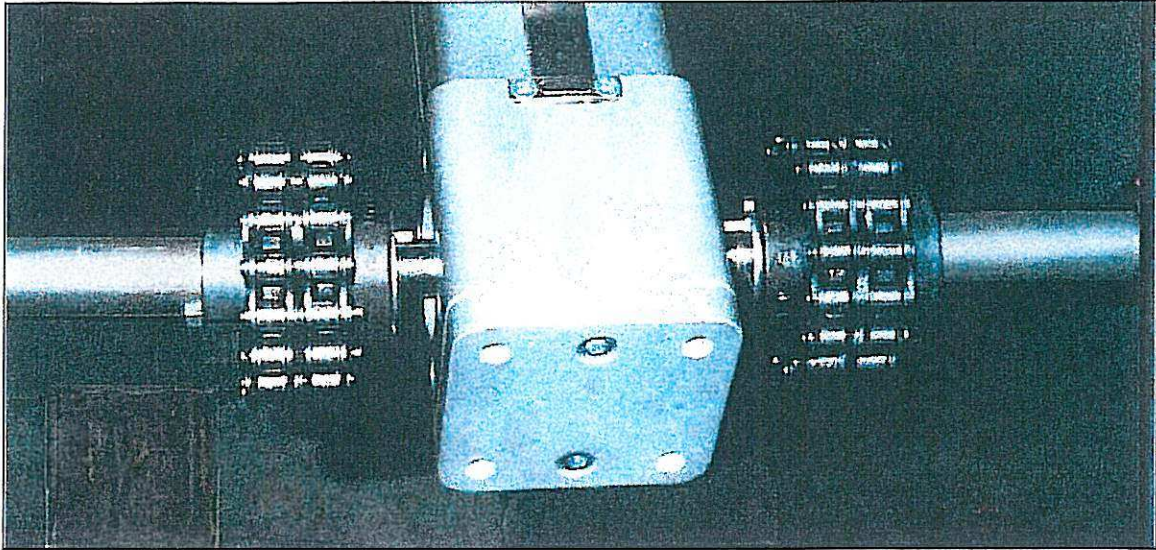

Figure 2.4
- D. Connect the back X-drive shaft between the bridge and back rail stand via couplings. Be certain to use all keys and set screws. See *Figure 2.4*.